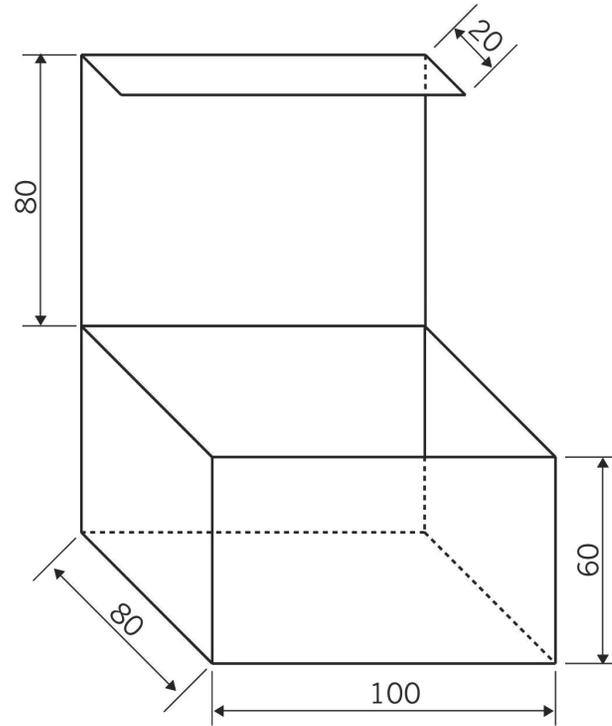

Figure 15
1. Make an isometric drawing of the chalk box in Figure 15 on isometric grid paper.